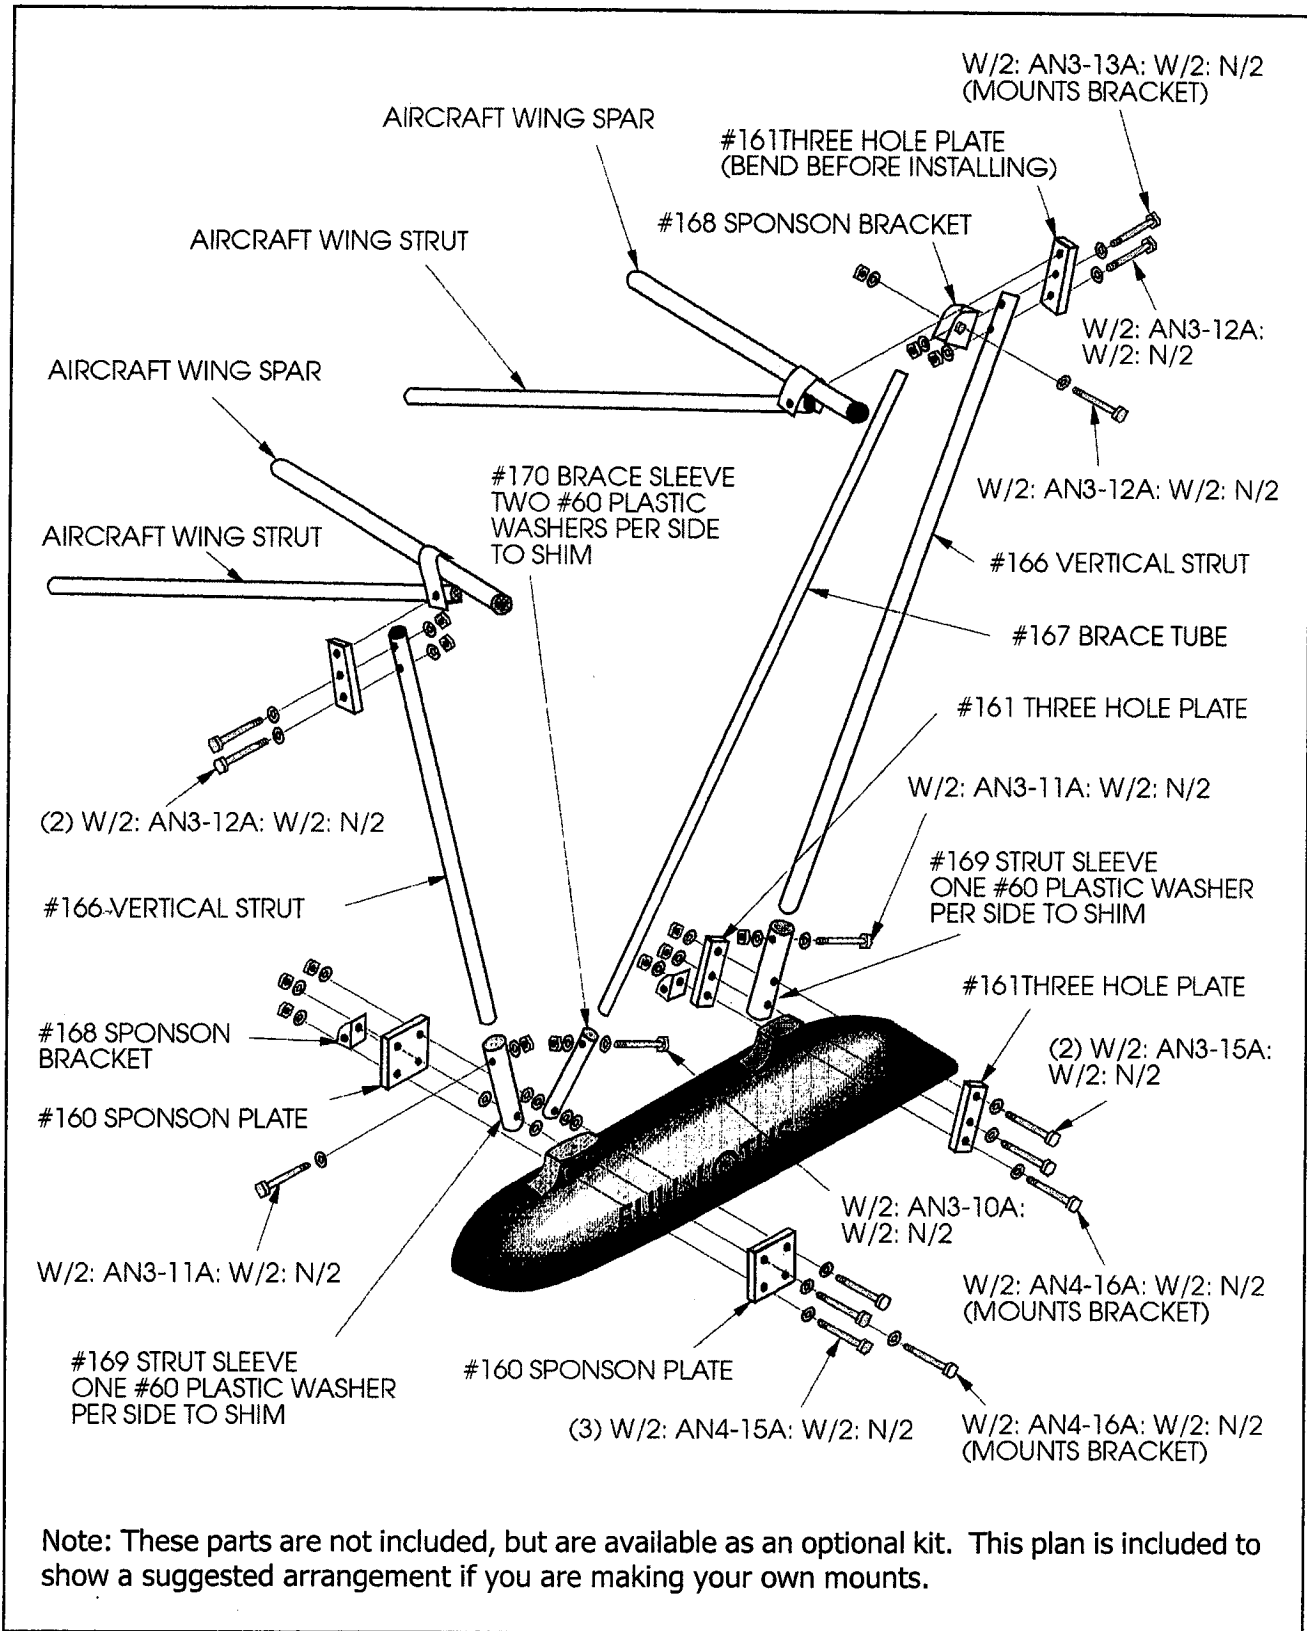

Figure 13: Installing the Strut Tube Truss, exploded view.
8. Install the $1/4"$ hole in two #161 Three Hole Plates to the rear sponson lug with a W/2: AN4-16A: W/2: N/2. Install the #168 Sponson Bracket on the fuselage side at the same time. The parts are illustrated in Fig. 13.